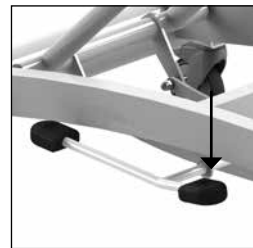

Figure 6 Moving downwards.
- The shower stretcher / dressing table moves downwards as a result of pushing the short part of the foot pedal downwards (See figure 6).